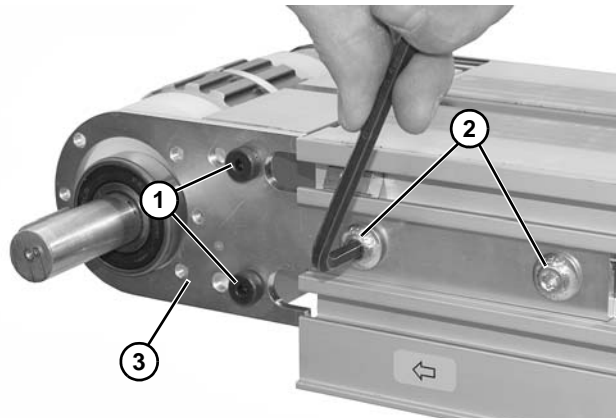

Figure 44
5. Remove two socket head screws (**Figure 44, item 1**).
6. Remove tail clamp bolts (**Figure 44, item 2**) and remove headplate (**Figure 44, item 3**).